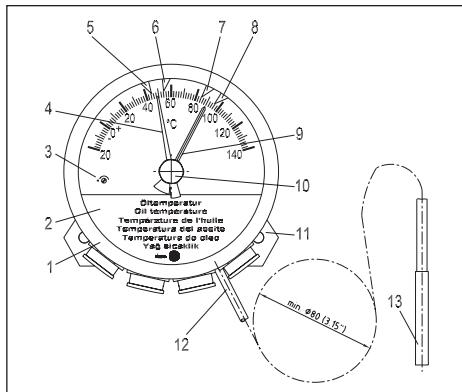

Fig. 1
The pointer thermometer is attached to the transformer by its mounting plate (Fig.1/11). The spacing between the fixing holes is 140mm and the diameter of the holes is 9mm. The thermometer should be installed vertically. The location of the device must be chosen to avoid any irregular vibrations or electromagnetic fields which are above the pertinent electromagnetic compatibility standards.
3.2 Capillary tube (Fig. 1/12)
Roll out the capillary tube avoiding kinks and loops. Do not rip, pull, squeeze or bend this tube. Never carry the thermometer by the capillary tube. Route the capillary tube and fix it in position. Roll up excess tube and store it in a position not subject to excessive temperatures (max. 60°C). Minimum winding diameter is 80 mm (see fig. 1).
3.3 Temperature sensor (Fig.1/13)
3.5 Maximum pointer (Fig.1/9)
The maximum pointer is operated by the pointer and records the maximum reading of a temperature measurement. The maximum pointer can be reset using the knob (Fig. 1/10).
When closing the device, make sure that the maximum pointer (Fig. 1/9) is in the correct position. It must be to the right of the pointer (Fig. 1/4). Replace the ring and turn it clockwise as far as it will go.
To connect the microswitches flip up the covering plate (Fig. 1/2). Remove the outer sheaths of the connecting cables to a length of approx. 160 mm and then the insulation of the individual conductors to a length of approx. 6 mm. Install
The pointer thermometers are calibrated at the factory. If it is necessary to readjust it, indication control and comparison measurements should only be carried out in agitated water baths in which the temperature remains constant for several minutes (approx. 15 min.). Readjustments are possible. The adjustment screw (Fig. 1/3) is on the front of the instrument.